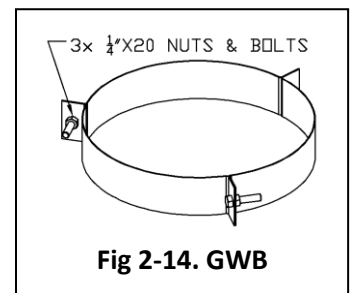

Fig 2-14. GWB
The Guy Wires Band permits easy connection for three (3) guy wires at 120 degrees apart. The band firmly clamps around the pipe outer jacket and includes three (3)  $\frac{1}{4}$ " x 20 stainless steel nuts and bolts. See Fig 2-14.